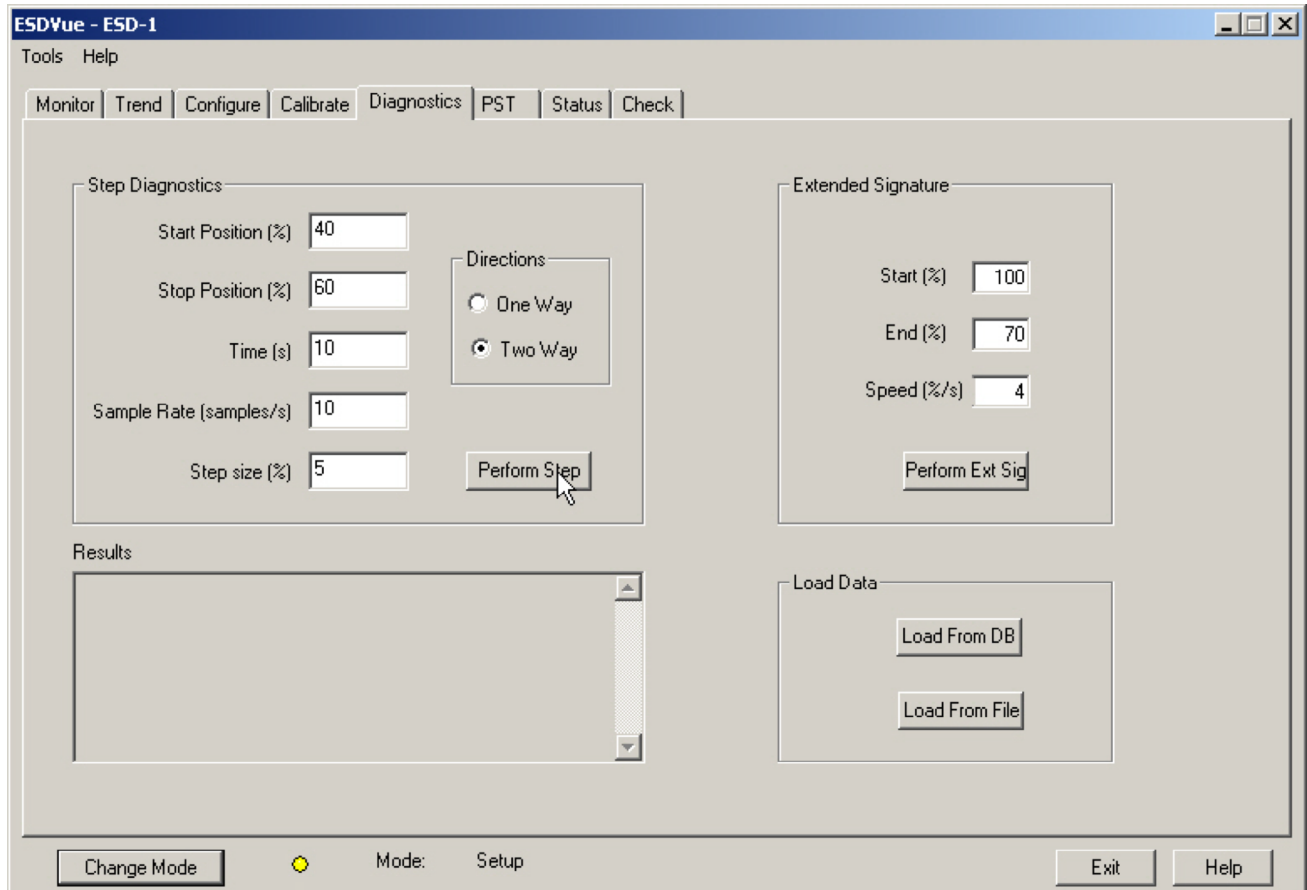

Figure 174 - Executing Perform Step Diagnostics
5. Click **Perform Step** (*Figure 174*).